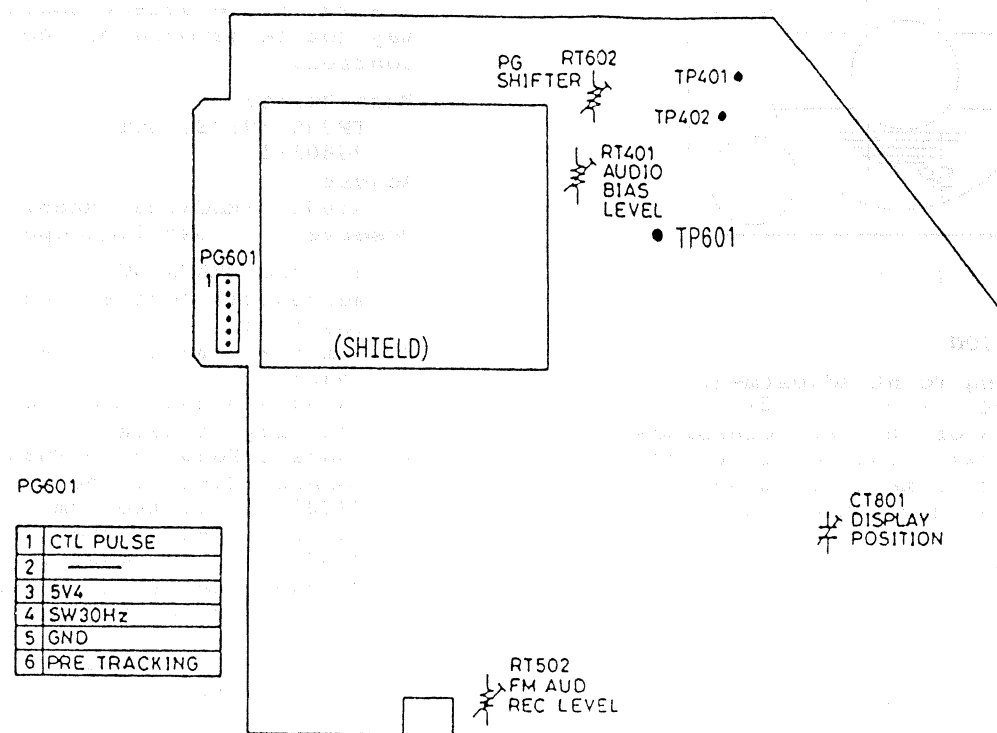

Fig. 4-151 Main Circuit Board
1) Audio Bias Level Adjustment (Fig. 4-151)
2) Record FM Audio Level Adjustment (Figs. 4-151, 4-154)